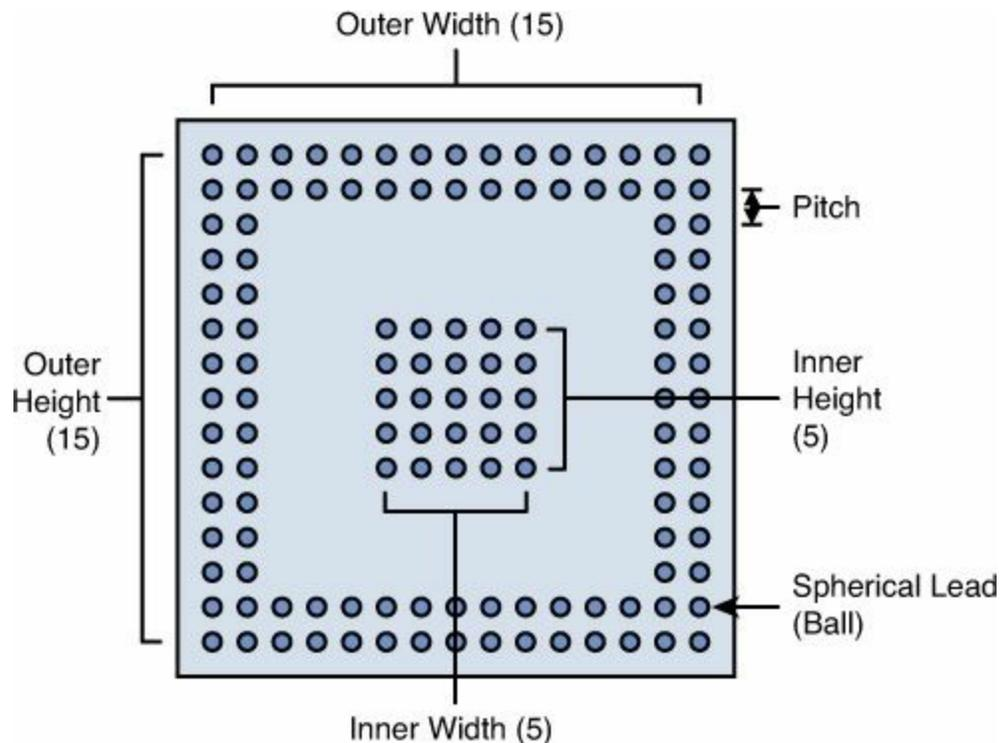

Figure 8.12: Leads in a Common Ball Grid Array (BGA) Package
Figure 8.12 displays a common arrangement of leads in a ball grid array. This contains two groups of leads: those that make up the outer rectangle and those that make up the inner rectangle.
- BGAs with leads arranged in an outer rectangle containing an inner rectangle (as shown in Figure 8.12)